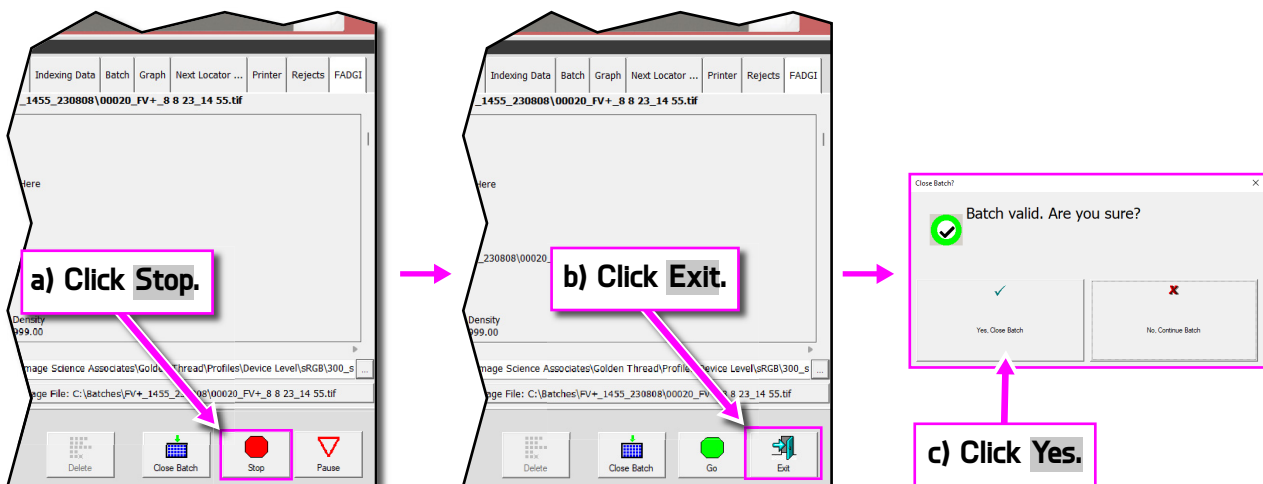

Figure 3-38: Run the rest of the Job
- c. When asked to confirm, click **Yes** (Figure 3-38).